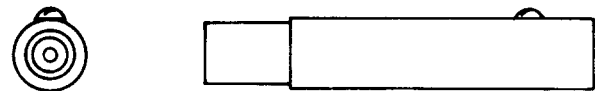

Fig. 10—466B Jack
2.10 466B: This portable coaxial-type patching jack (Fig. 10) is used with the KS-8086 or 724 cable and with the 337A, 337B, 342A, and 342B plugs in the L Carrier Telephone Systems. This jack replaces the 466A jack.